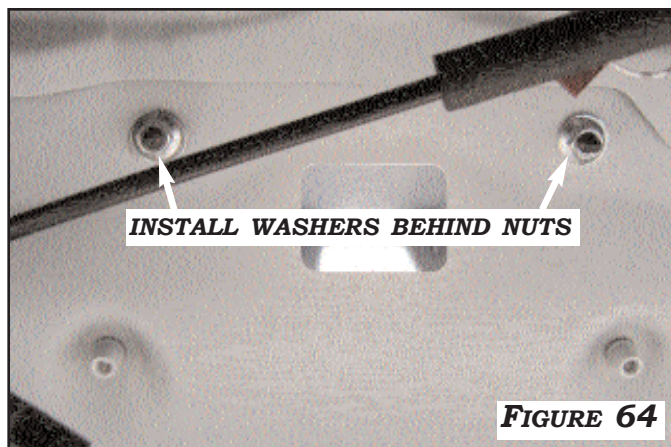
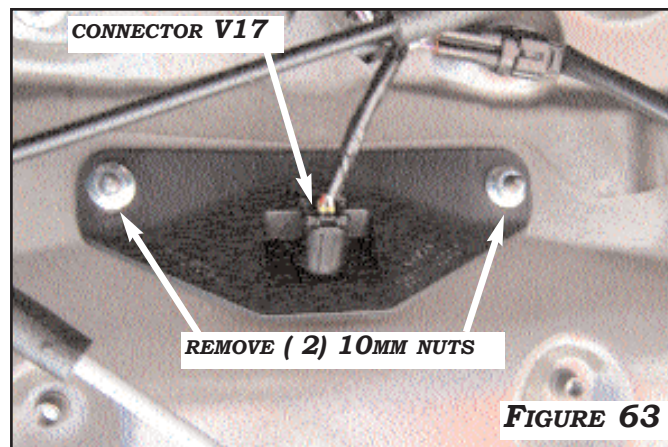

FIGURE 64
FIGURE 63
4. REMOVE (2) 10MM NUTS AND DISCONNECT THE **V17** CAMERA CONNECTOR FROM DUMMY HOUSING. **FIGURE 63**. DISCARD DUMMY HOUSING. **USE THE WASHERS SUPPLIED IN HARDWARE BAG TO APPLY BEHIND THE NUTS WHEN RE-INSTALLING. FIGURE 64**